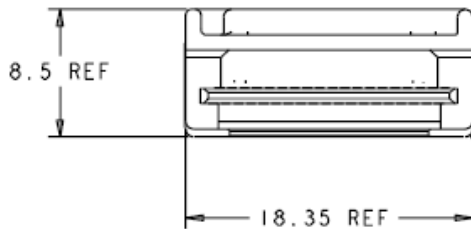

Figure 3 - QSFP+ Mechanical Specification for the connector – Page 25 of the SFF-8436 Rev 3.6
1. For QSFP+ cables measure each end of the cable - Figure 3 - QSFP+ Mechanical Specification for the connector – Page 25 of the SFF-8436 Rev 3.6